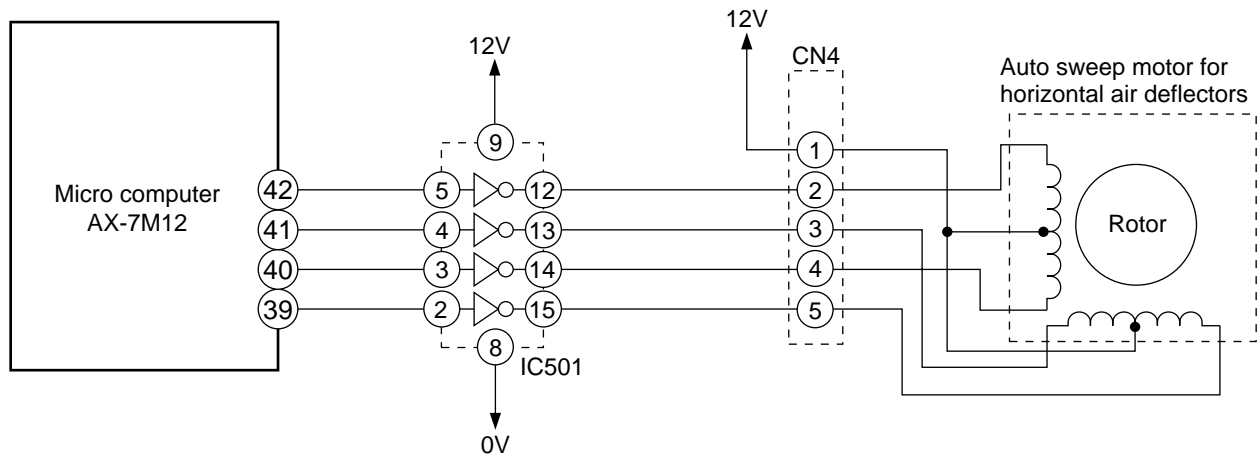

Fig. 4-1 Auto Sweep Motor Circuit (Horizontal air deflectors)
- Fig. 4-1 shows the Auto sweep motor drive circuit; the signals shown in Fig. 4-2 are output from pins ④②—④⑤ of the micro computer.